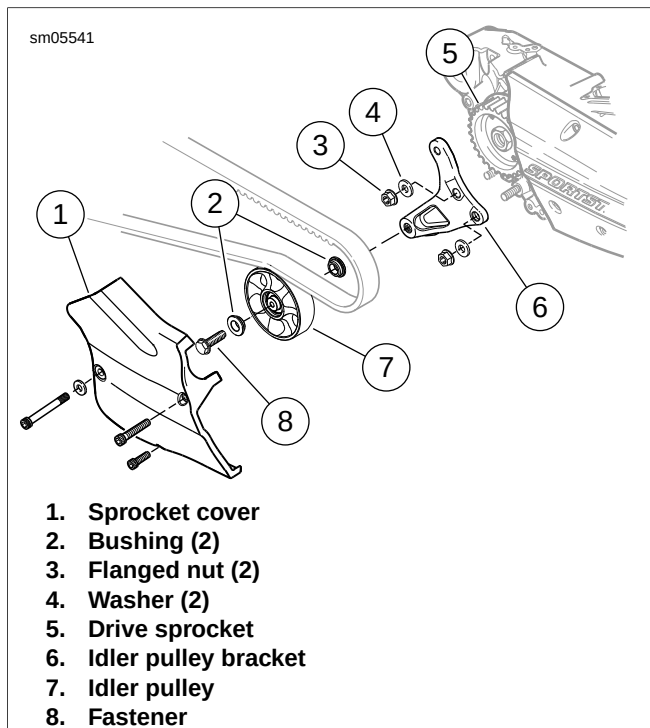

Figure 5-47. Drive Belt Idler: XR Models
1. See Figure 5-47. Remove sprocket cover (1).
1. See Figure 5-47. Install **new** or existing idler pulley (7), if removed. Tighten fastener (8) to 70-80 ft-lbs (95-109 Nm).
2. Install idler pulley and bracket assembly. Install washers (4) and flanged nuts (3), and tighten to 33-35 ft-lbs (45-47 Nm).